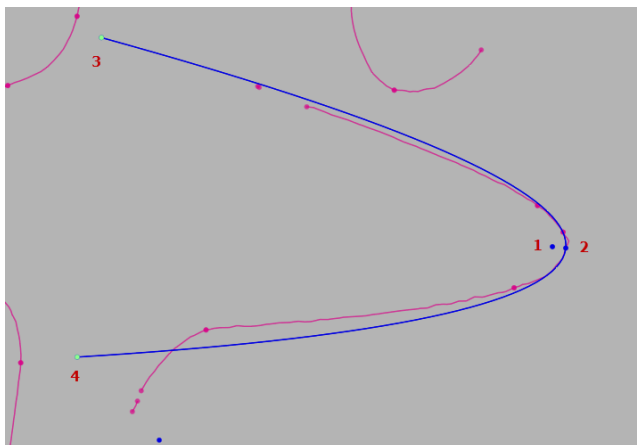

Figure 489
- Use the **Front** Plane as the **Base Plane**, and offset the section until it crosses through the entire conical face. They polylines will look like **Figure 489**.
- Use best judgement to choose the center point of the parabola. It should be near the apex. Use **Figure 489** to help place the other points of the parabola.